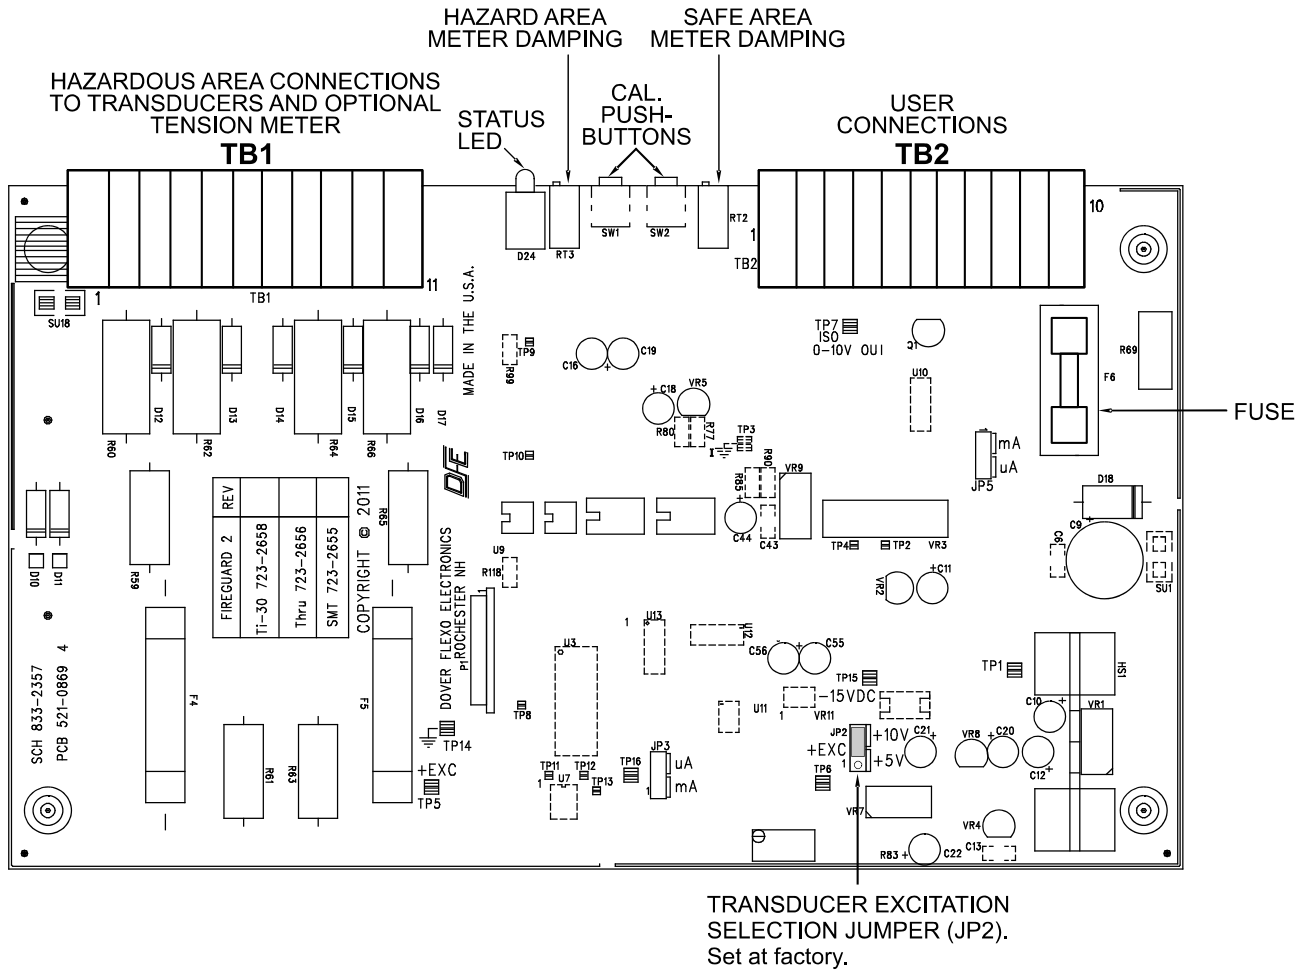

Figure 4 - FireGuard 2™ CIRCUIT BOARD
4. Remove the unit's cover using the two mounting screws shown in Fig. 4. Your unit has been set up per your order. If the unit is set for XRE operation, it will have a sticker on the transducer connection TB1.
5. Remove the six mounting screws holding the interior panel assembly to the enclosure also shown in Fig. 4. Then remove the interior panel assembly.
If Power exists at the Pins but no Output is produced AND the status LED is out, check the fuse inside the unit (See Fig. 4 page 6). If the fuse is good but the Status LED is out contact DFE for repair of the unit. No other user repairable items exist in the unit.